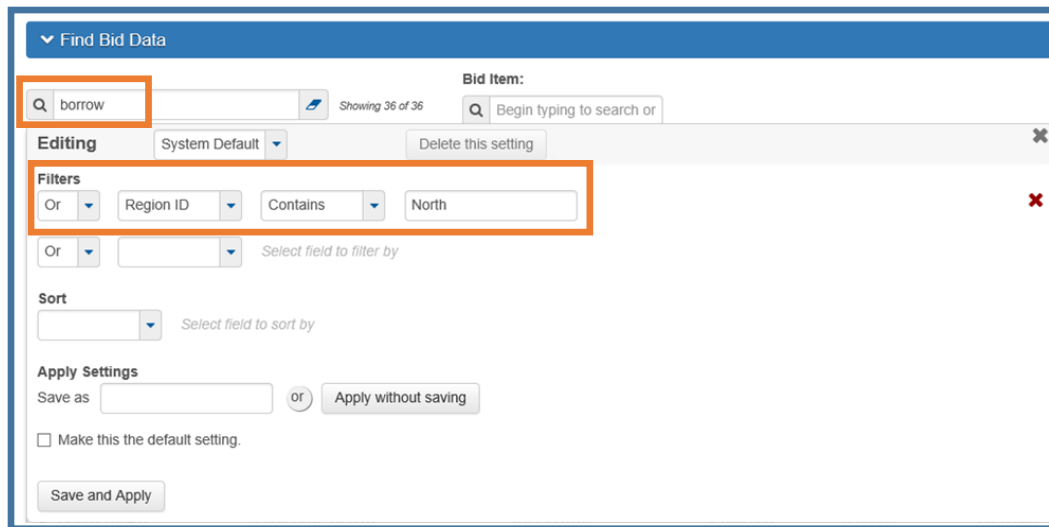

Figure 18.18
4. Use a combination of the first three to really narrow down search results (*Figure 18.18*). See the Search, Sort and Filter section of chapter 2 for more information on building filters.